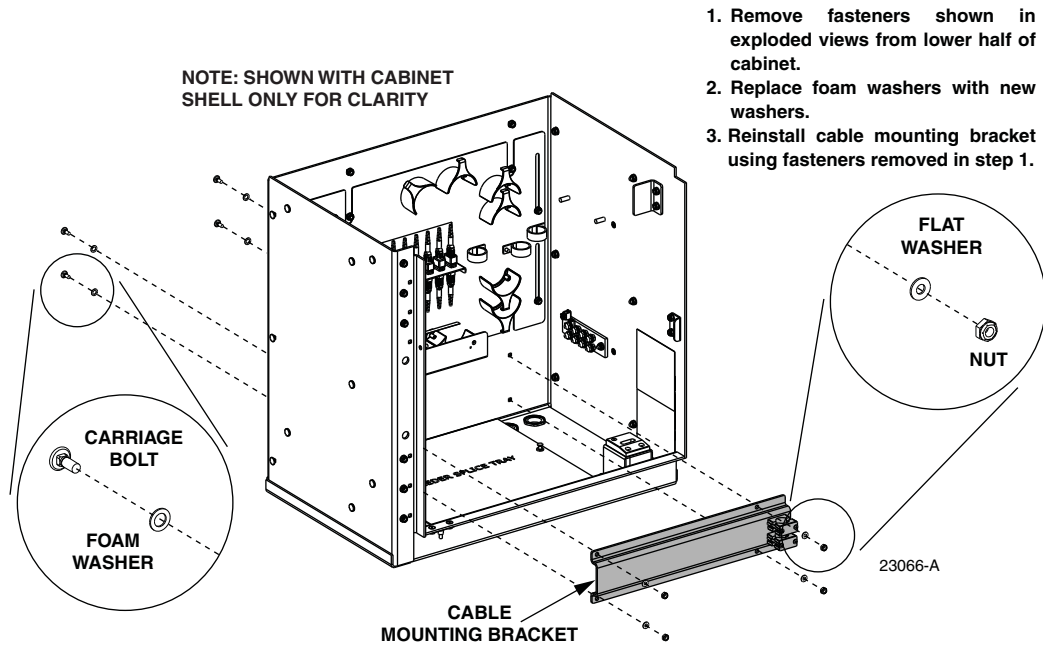

Figure 28. Reinstall Cable Mounting Bracket
11. Remove the specified carriage bolts, foam washers, flat washers, and nuts from the lower half of the cabinet as shown in Figure 28.